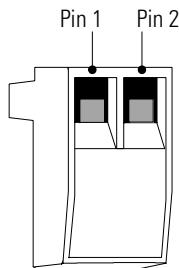

Figure 26. REPO Connector
3. Connect isolated, normally-open, dry contacts (rated at 60 Vdc maximum, 30 Vac RMS maximum, and 20 mA maximum) across the REPO device to Pin 1 and Pin 2 (see Figure 26). Use stranded, non-shielded wiring, size 18–22 AWG (0.75 mm^2 – 0 mm^2).